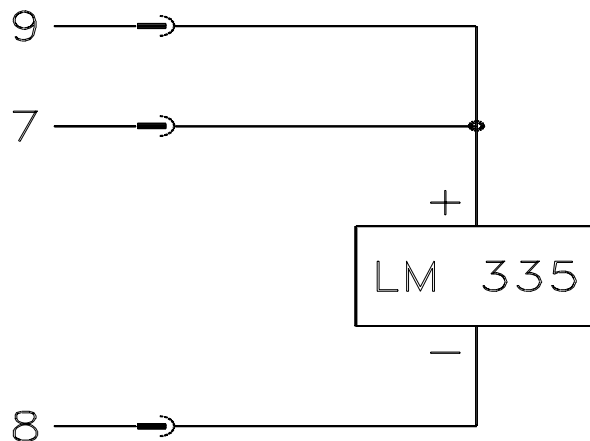

Fig. 2.7 Connecting a temperature/voltage transducer LM 335
In addition to the AD590/592 temperature sensor, the TEC2000 also works with an LM335 sensor. If an LM335 is used as temperature sensor, switch (R6) must be set to the same position as for operating with an AD590 sensor. Then the LED "AD590" (1) lights up. The LM335 sensor must be connected according to fig. 2.7.